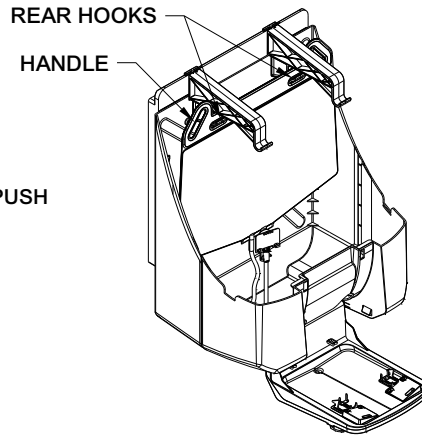

Figure 9
- A. Lift first Cartridge by handle provided and place on rear hooks of Hanger Bracket (Ref Figure 9).